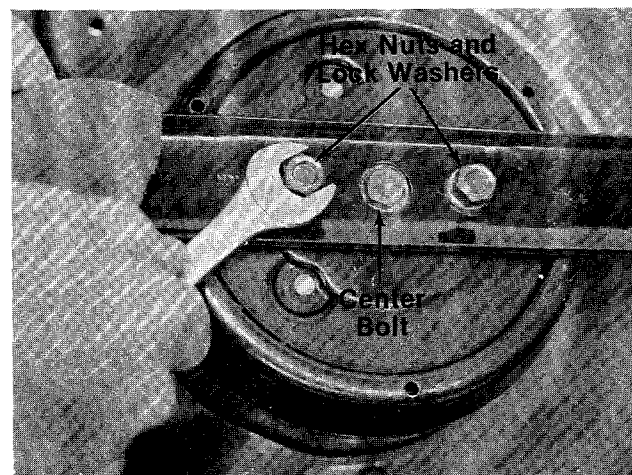

FIGURE 21.
To remove the cutting blade for sharpening or replacement, remove the two hex nuts and lock washers which hold the blade to the blade brake/clutch. See figure 21.
9. Tip the mower on its side. Remove the blade by removing two hex nuts and lock washers. Refer to figure 21.